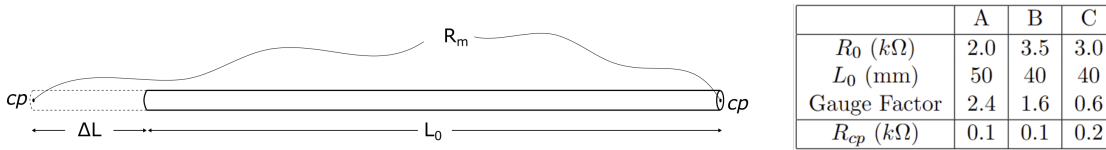

Figure 2: A stretchable resistive sensor.
Uniaxial stretchable strain sensors change their resistance as they are extended. Due to their high compliance, they are often selected to monitor soft robotic proprioception, or for integration in wearable devices. 3 different resistive sensors are considered, labelled A, B, and C in Figure 2. The measured resistance $R_m = R + 2R_{cp}$ includes the sensor resistance R measured between the two contact points cp, and their contact resistances R_{cp} . $R = R_0$ corresponds to the unstretched length L_0 .
- (i) Using the definition of Gauge Factor given in lectures, plot the measured resistance R_m of all 3 sensors for $0 \leq \Delta L \leq 20$ mm, first assuming that $R_{cp} \simeq 0$, then again using the tabled values in Figure 2.